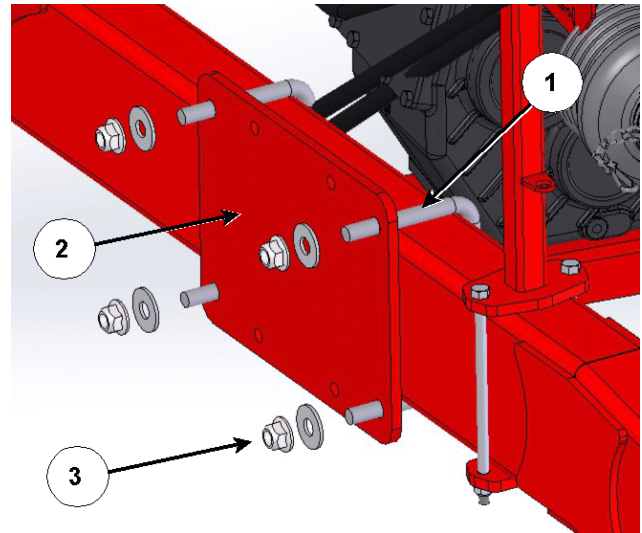

Figure 1: Fasten mount plate onto the frame
2. On the right hand side of the frame, opposite the current jack mount, hook 1 U-bolt (1) on either side of the gearbox mount plate, see *Figure 1*.
3. Fasten the hydraulic jack mount plate (2) onto the U-bolts using 4 x $\frac{3}{4}$ washers and 4 x $\frac{3}{4}$ flanged lock nuts (3), see *Figure 1*.